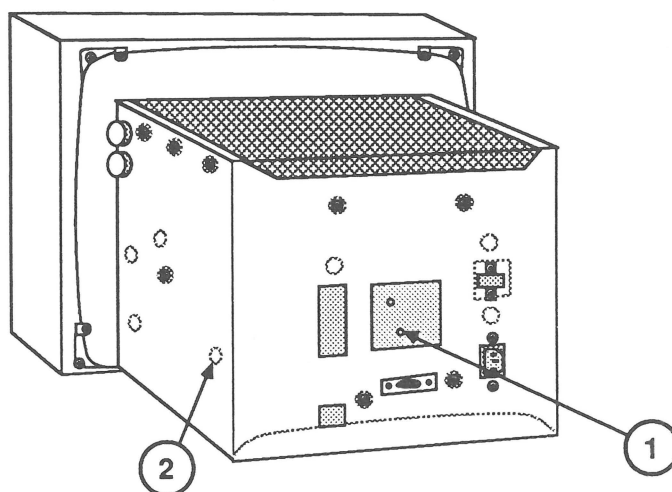

FIGURE 4
- SUBCONTRAST (Figure 4, #1)
- HORIZONTAL LINEARITY (Figure 4, #2)